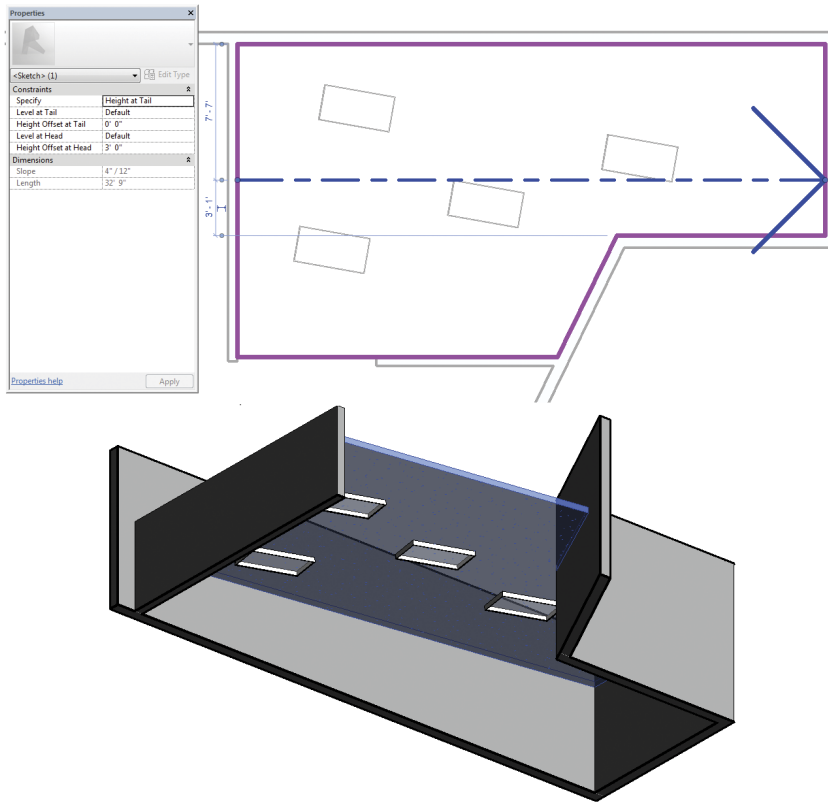

FIGURE 3.39 Adding a slope arrow to the ceiling
3. Place a slope arrow as shown in the top image in Figure 3.39. Set the `Height Offset` values for the `Tail` and `Head` to `0'-0"` and `3'-0"` (1000 mm), respectively.
4. Finish the sketch. The result (bottom image in Figure 3.39) is shown in 3D using a section box. The lights should follow the revised ceiling slope.